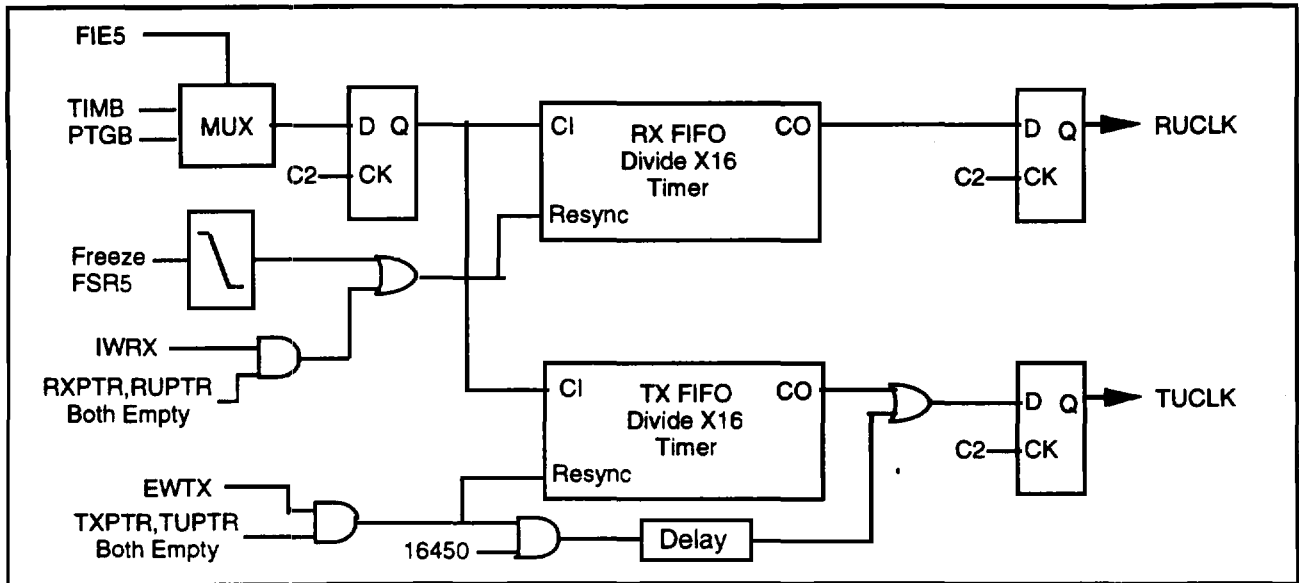

Figure 3-20. FIFO UART Timing Simulator
**FIFO UART Timing Simulator.** The FIFO UART Timing Simulator (see Figure 3-20) provides both an RUCLK and an TUCLK to simulate the 16550 UART word rate. These rates are driven by either TIMB or PTGB through divide by 16 counters.
**FIFO UART Timing Simulator.** The FIFO UART Timing Simulator (see Figure 3-20) provides both an RUCLK and an TUCLK to simulate the 16450 UART word rate. These rates are driven by either TIMB or PTGB through divide by 16 counters.